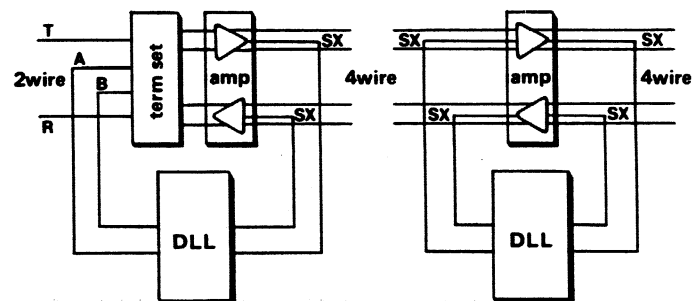

figure 2. Typical 2w-to-4w and 4w-to-4w interfaces
2.04 Though basically a 2wire-to-2wire device, the 7002(A) can be conditioned via switch option for use in 4wire-to-4wire, 4wire-to-2wire, or 2wire-to-4wire applications. In such applications, however, the 7002(A) must interface the 4wire circuit(s) through a 4wire device such as a line amplifier or a voice-frequency repeater. For a 4wire circuit on the switching-equipment side of the 7002(A), this interface is accomplished by connecting the switch-side T and R leads of the 7002(A) to the switch-side A and B leads or simplex (SX) leads of the 4wire device. Similarly, for a 4wire circuit on the station side of the 7002(A), this interface is accomplished by connecting the station-side T and R leads of the 7002(A) to the station-side A and B leads or SX leads of the 4wire device. Figure 2 shows 2wire-to-4wire and 4wire-to-4wire interfaces involving the 7002(A).
3.09 Switch S8 conditions the 7002(A) to interface 2wire or 4wire transmission equipment (e.g., a line amp, repeater, or term.set) on either or both sides. If the module interfaces 2wire transmission equipment on both the switch and station sides, set S8 to the 2W position. If the module interfaces a 4wire transmission device on either side or on both sides, set S8 to the 4W position; also ensure that the 7002(A)'s T and R leads on the side(s) where the 4wire device(s) is located are connected to the A and B leads or SX leads on the corresponding side(s) of the 4wire device. (See paragraph 2.03 and figure 2 for details.)